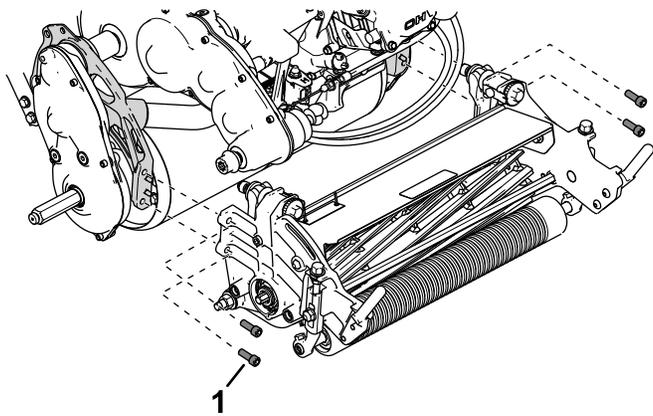

Figure 4
- Use 4 socket-head screws to install the cutting unit to the machine (Figure 4).